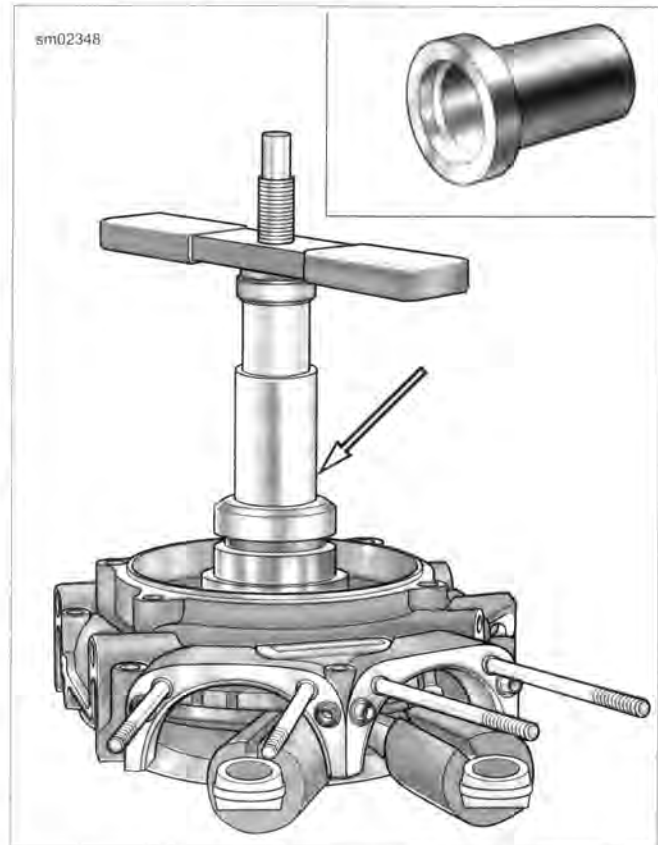

Figure 3-132. Sprocket Shaft Oil Seal Installer
13. See Figure 3-132. Install **new** oil seal into bearing bore.